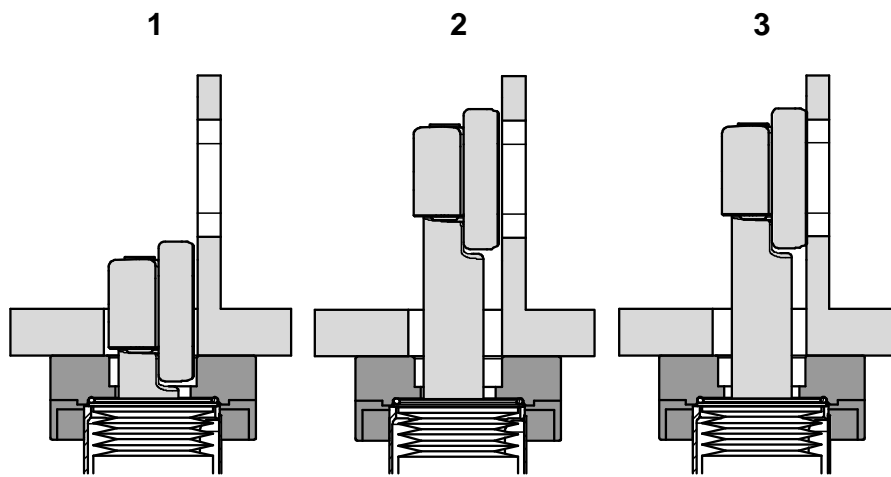

Figure 4-2
The main actuator performs an L-movement triggered by a pneumatically sequence control. The valve starts in **open position (1)**; see «Figure 4-2». The actuator moves the gate upwards until **position (2)** is reached. The gate is moved towards sealing surface through pneumatic pistons. Movement ends in **closed position (3)**.